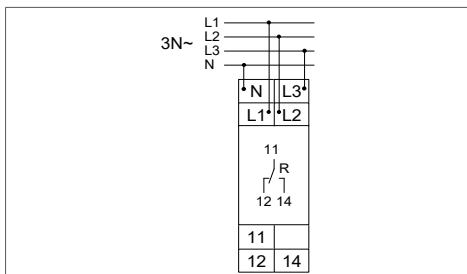

Figure 5: Electrical connection, 3-phase
- Connect and wire the device according to Figure 5.